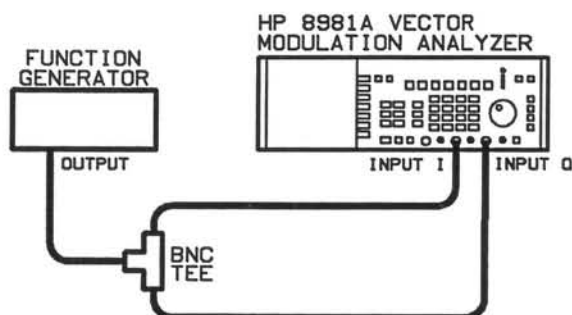

Figure 3-7. Preliminary Check and Display Check Setup
8. Connect the equipment as shown in Figure 3-7 and set the function generator controls as follows: